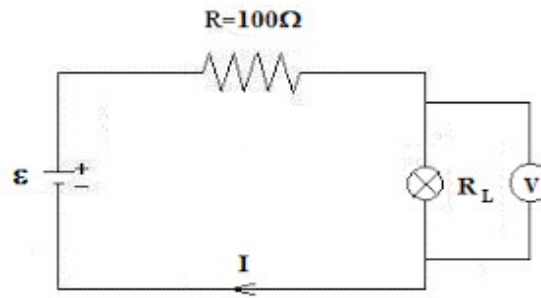

Figure 6.4 Tungsten filament bulb circuit
1. Set up the circuit shown as in Figure 6.4.